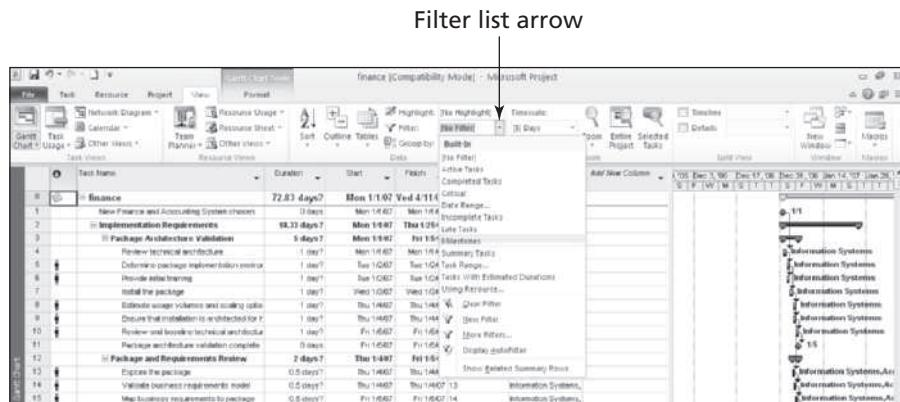

FIGURE A-14 Using a filter
1. *Apply a filter to see only milestone tasks.* From the Table: Entry view in the finance.mpp file, click the **View** tab, and then click the **Filter list arrow** , as shown in Figure A-14.